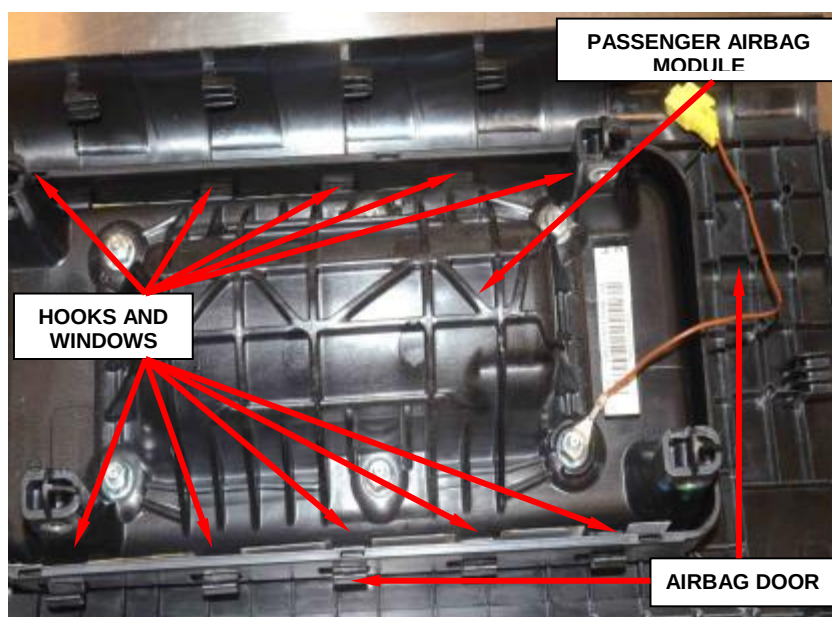

Figure 196 – Release Passenger Airbag Module
21. Release the passenger airbag module hooks from the airbag door windows (Figure 196).